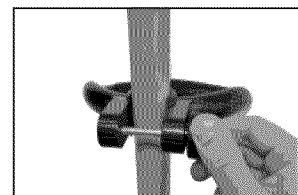

Figure 13 - Tighten the knob
3. Adjust handle to the most comfortable position and tighten the knob firmly. Do not overtighten the knob. (See Figure 13).